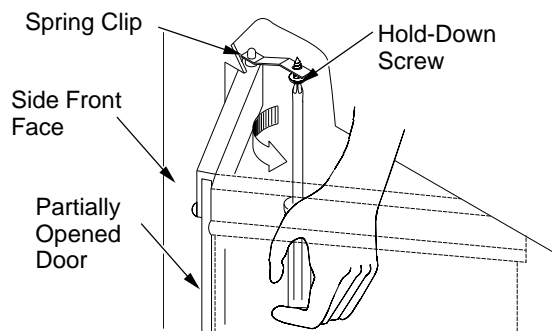

Figure 32 - Adjusting Glass Doors
7. To adjust the doors, slide them partially open. Using a screwdriver, loosen the hold-down screws in the spring clip (see Figure 32, page 15) and pivot plate.